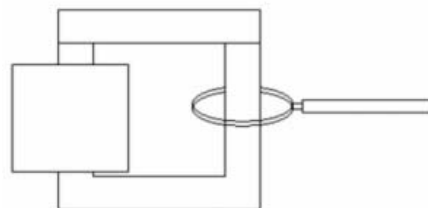

Fig. 1: Schematic diagram of an induction oven
- Set up the experiment as shown in Fig. 1.